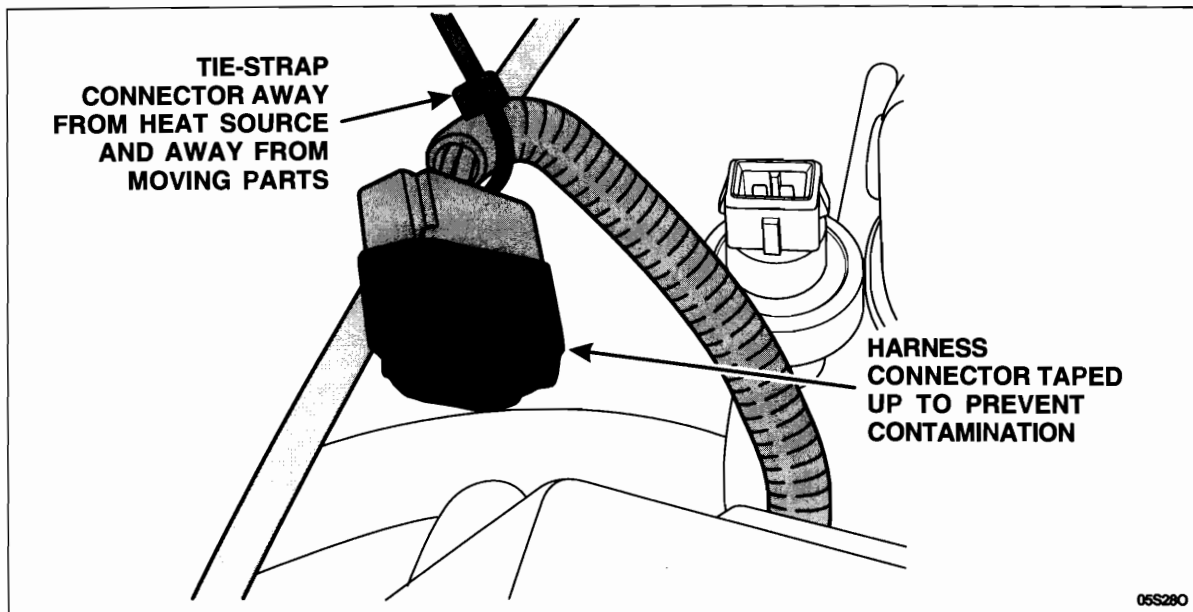

FIGURE 10
3. Secure the connector by tie strapping it to the speed control cable or another available location to prevent rattle or contact with other components. Keep the harness away from the power distribution box to avoid chafing the harness. See Figure 10.